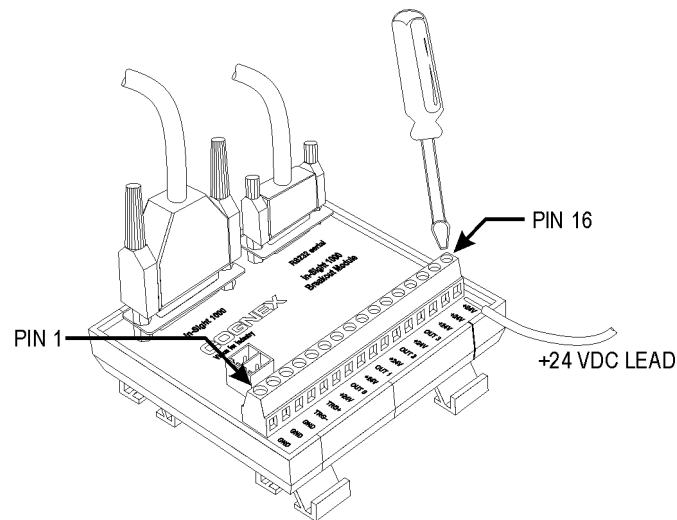

Figure 10. Connecting Leads to the 16-Pin Terminal Block
4. Connect leads to the 16-pin Terminal Block (Figure 10).